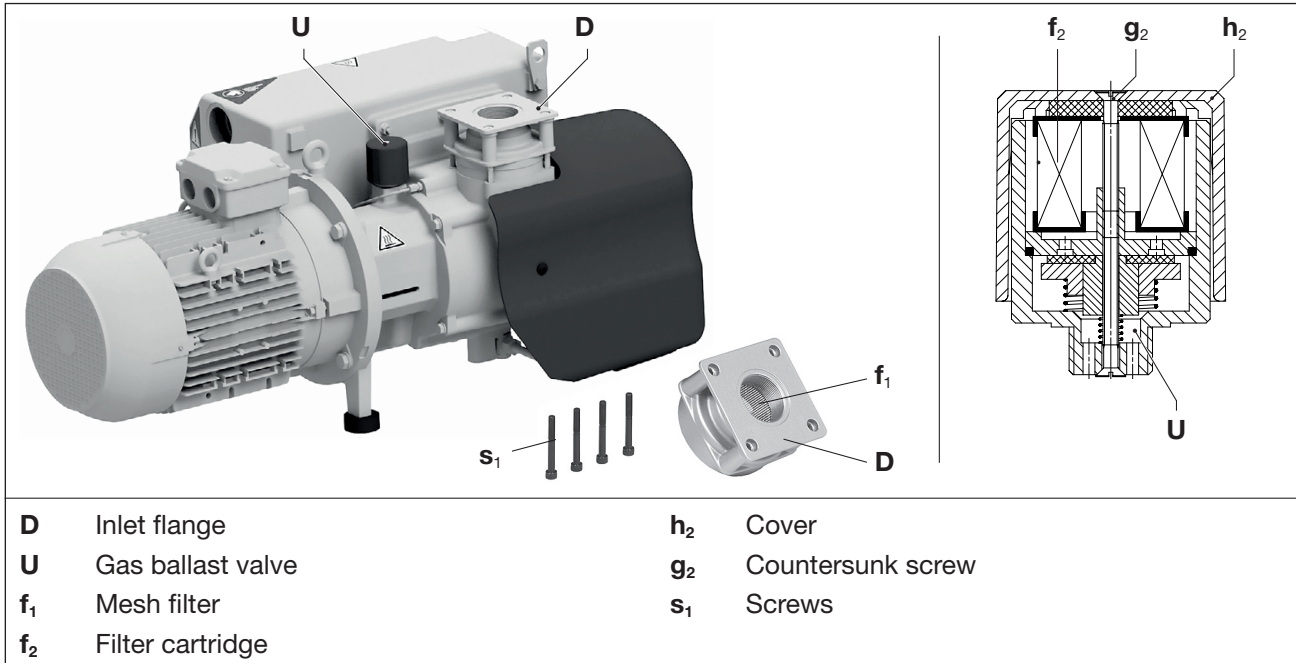

Fig. 6 Mesh filter and gas ballast valve
Depending on the pollution of the inlet medium, the mesh filter (Fig. 6/f₁) has to be cleaned more or less by washing or blowing off or it must be replaced.
- Take off the suction flange (Fig. 6/D) after releasing the screws (Fig. 6/s₁).
- Clean the mesh filter (Fig. 6/f₁).
- Put on the suction flange (Fig. 6/D) and secure it with the bolts (Fig. 6/s₁). Tightening torque: 25 Nm
The pumps work with a gas ballast valve (Fig. 6/U). The inbuilt filter cartridge (Fig. 6/f₂) must be cleaned more or less often depending on how dirty the medium flowing through is.
- By undoing the countersunk screw (Fig. 6/g₂) and removing the plastic cover (Fig. 6/h₂), the filter parts can be removed for cleaning.
- Clean the filter cartridge (Fig. 6/f₂) by purging or replace it.
- Insert the filter cartridge (Fig. 6/f₂) into the valve, put on the plastic hood (Fig. 6/h₂) and secure with the countersink screws (Fig. 6/g₂). Tighten the screw by hand.